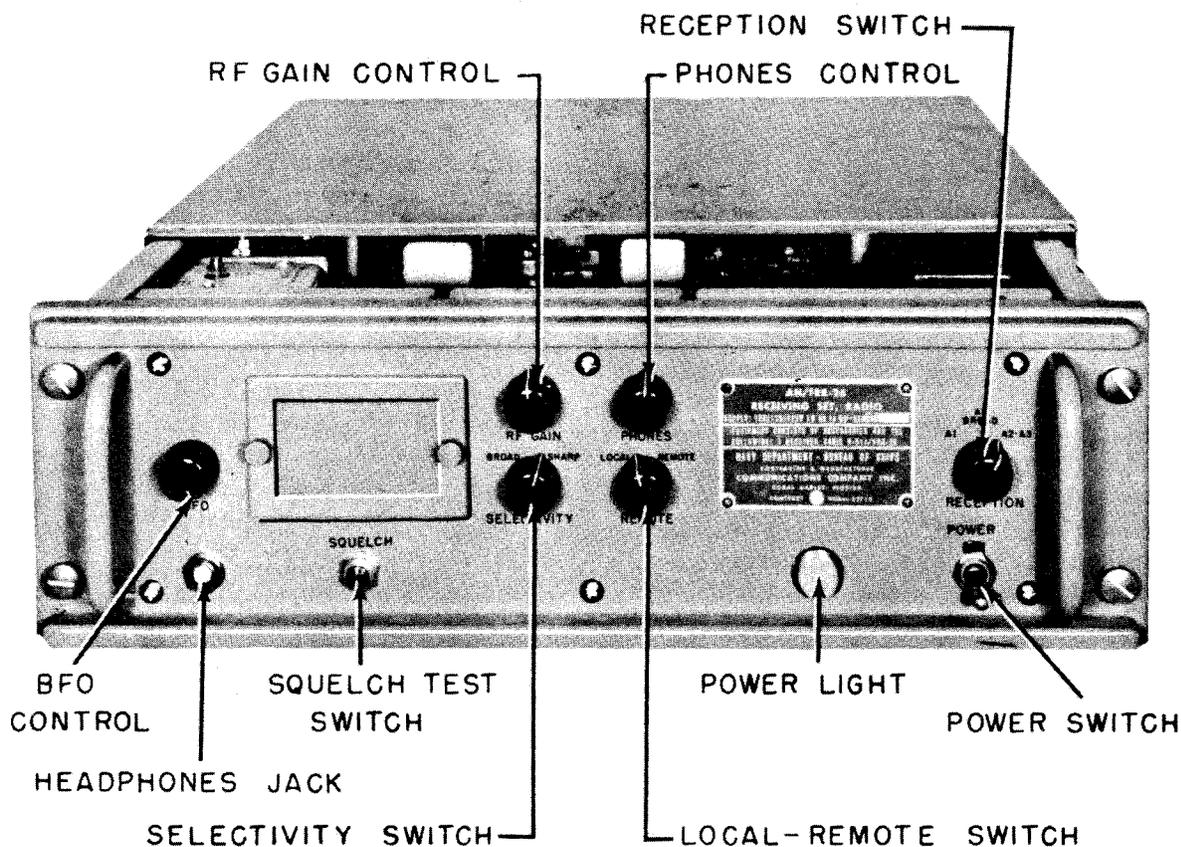

Figure 4-1. Front View of the Front Panel
a. FRONT PANEL CONTROLS.—These controls are used for turning the receiver ON or OFF; controlling the audio output to the head-telephones; squelch testing; selecting the mode of reception; receiver selectivity, local or remote operation and A1 reception tone. Their locations are indicated in figure 4-1.
(1) BFO CONTROL.—This control (R406) functions only when the receiver is operating on A1 or A1 BROAD. It varies the frequency of the BFO oscillator over a range of approximately 4000 cycles. This control should be at zero beat at approximately 50% rotation. The BFO transformer (T205) with an on-frequency signal near 50% rotation of the BFO control should give a beat note adjustment of approximately  $\pm 2000$  cycles.
(2) HEAD-TELEPHONE JACK.—This jack (J404) is provided for listening with 500 to 600 ohm head-telephones. When the PHONES level control (R404) is set at maximum level (clockwise), the output from the head-telephone jack will be about one percent of the power delivered to the AUDIO receptacle when its load is 600 ohms. Accordingly when the receiver is delivering 1.5 watts into a 600 ohm load, the maximum audio available at the head-telephone jack is 15 milliwatts into 600 ohm phones. Low impedance speakers and head-telephones below 300 ohms should not be plugged into this receptacle.
(3) SQUELCH TEST SWITCH.—This is a momentary operated push button switch (S402), used to disable the receiver squelch or to receive signals which are too weak to open the squelch. This switch is only operative in the A2-A3 position. The switch is normally open. If the SQUELCH threshold control (R217) has been adjusted to a point where the squelch is always open, the squelch test switch will have no effect.
(4) RF GAIN.—When the receiver is operating on either A1 or A1 BROAD positions, this control (R405) is operative and applies an adjustable amount of negative voltage to the AGC line which can vary the receiver gain over 100 db.